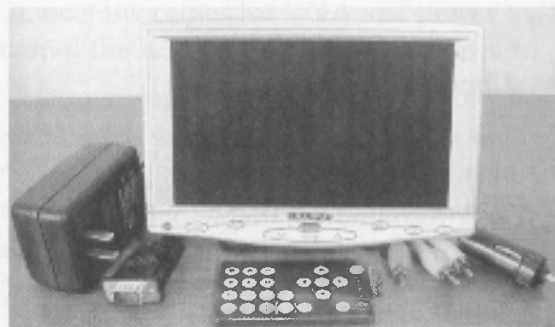

Figure 7-8 Seven-inch widescreen color monitor
Two types of graphical display can be used with a car PC: (1) the very low-resolution black and white LCD displays that use an interface similar to the one used in the alphanumeric displays mentioned in this section and (2) the high-resolution color displays that can be used with a VGA or composite output. Installation of a low-resolution black and white graphical display is broadly similar to the installation of the alphanumeric displays mentioned earlier in this chapter. High-resolution color displays, on the other hand, have vastly different considerations (see Figure 7-8).